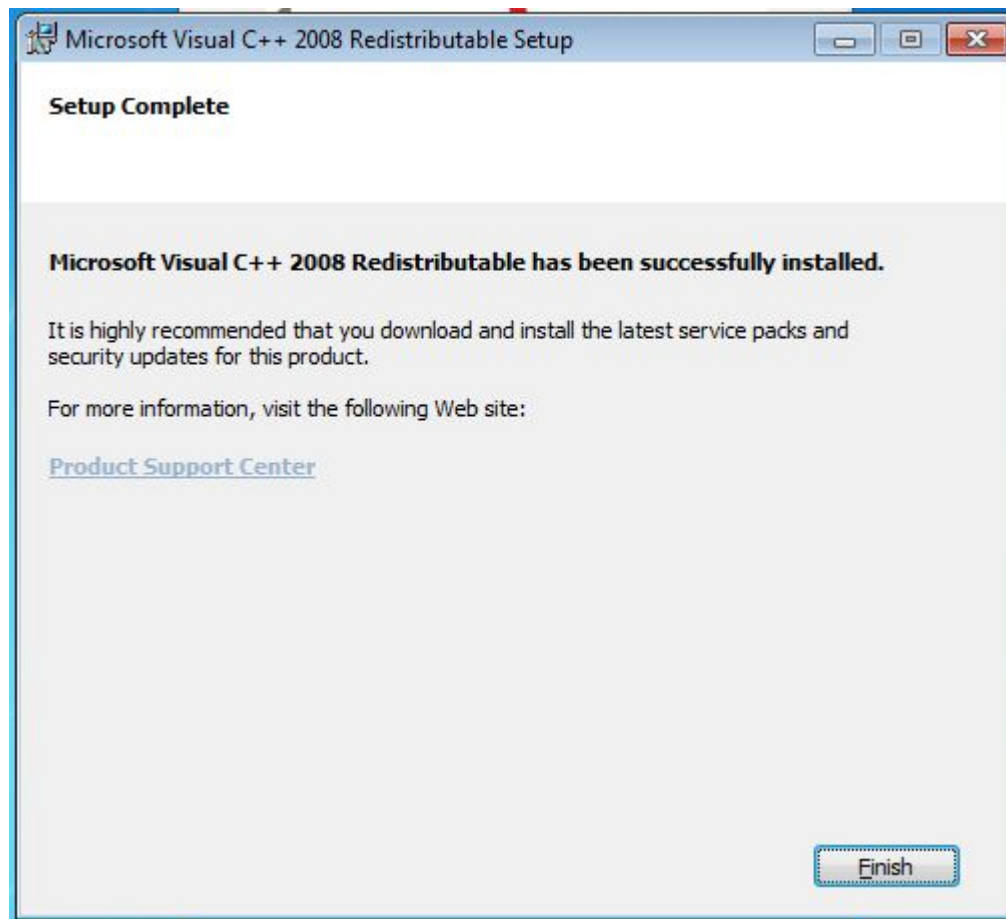

Figure 4.3 - Visual C++ 2008 Redistributable Setup Complete
3. A progress dialog will show the redistributable installation and setup. When it is complete, the following dialog in Figure 4.3 will be displayed. Click **Finish** to continue with the installation.